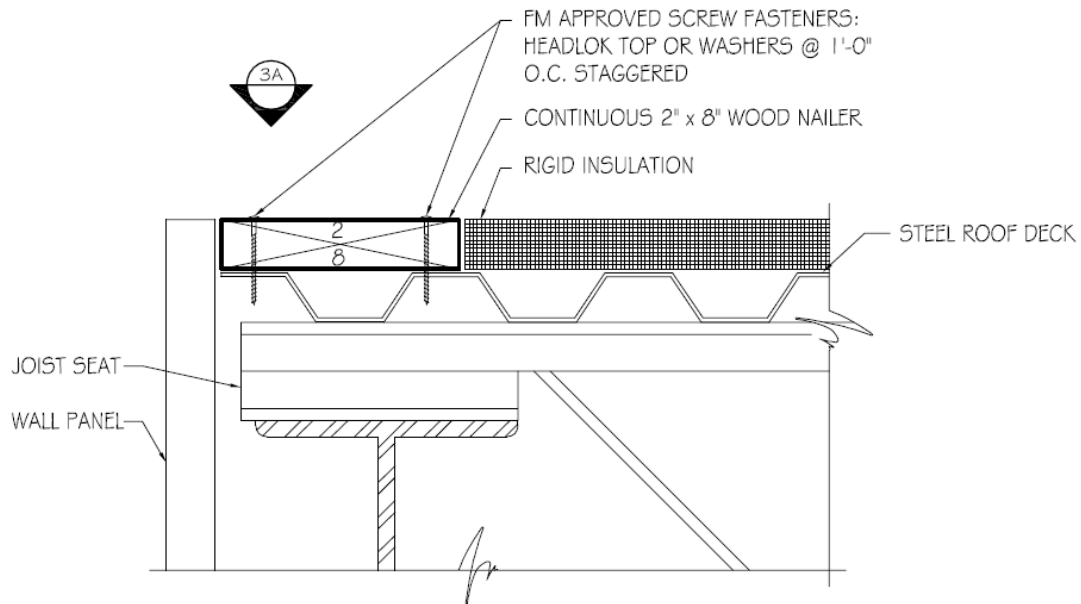

FIGURE 2 - ROOF EDGE WOOD BLOCKING - SCREW FASTENER ANCHORAGE
- Penetration of the fasteners should be to the top flutes only. The fasteners must be staggered as shown in **Figure 2**.
- On wood decks, the staggered fastening pattern with galvanized steel screws should be utilized as shown in **Figure 2**.